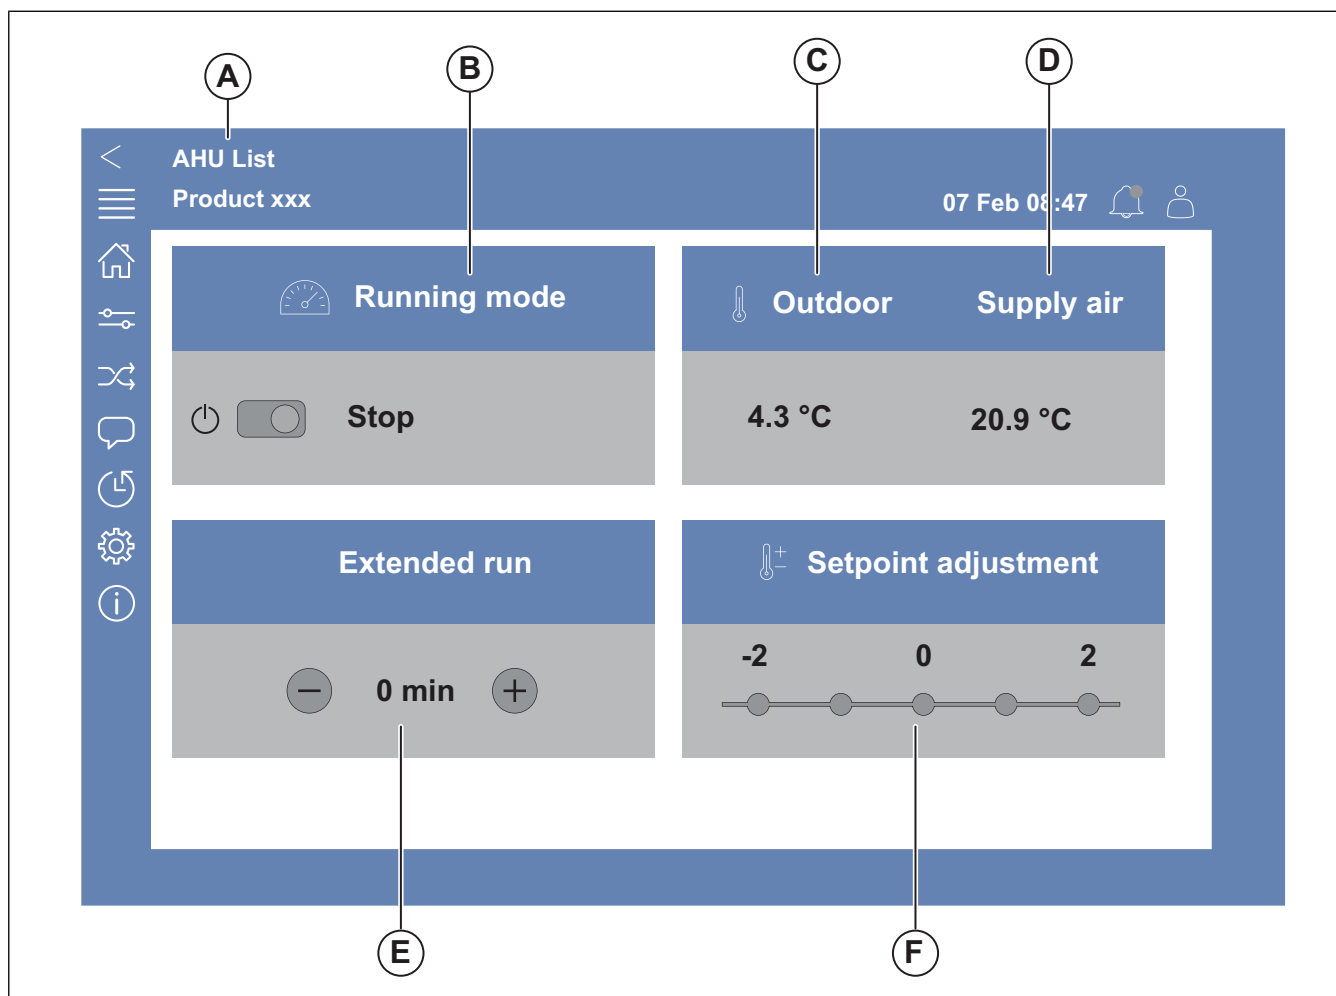

Fig. 1 Home page
- Press AHU list (A), refer to Fig. 1 Home page. Available products are shown on the screen.